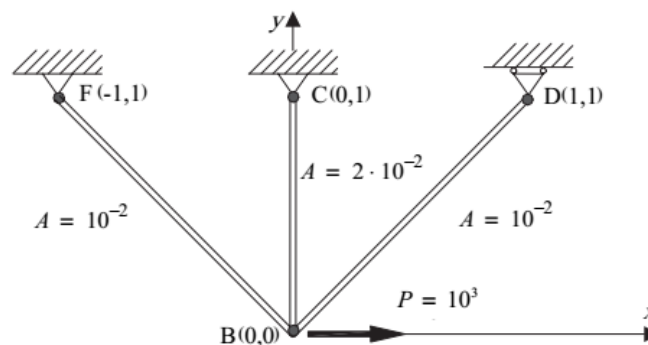

Figure.1
4. Given the three-bar structure subjected to the prescribed load at point D equal to 10^3 N as shown in Figure.1. The Young's modulus is $E = 10^{11}$ N/m², the cross-sectional area of the bar BC is 2×10^{-2} m² and that of BD and BF is 10^{-2} m². Note that the point D is free to move in the x-direction. Coordinates of joints are given in meters. [14]